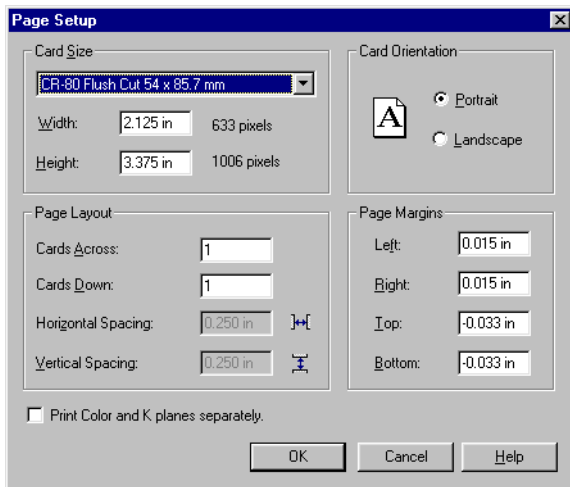

Figure 11: Page Setup for a Badge
- After you have selected your printer, click on File ⇒ Page Setup. The Page Setup window appears (see Figure 11).